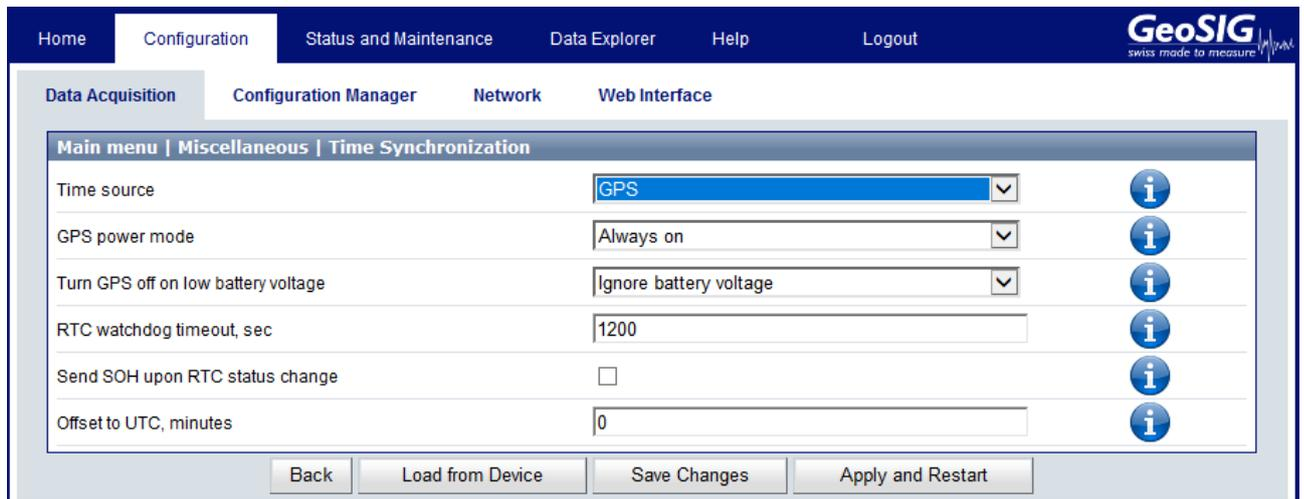

Figure 37: Time Synchronisation menu
- In Time synchronisation menu shown in Figure 37, change the **Time source** to GPS